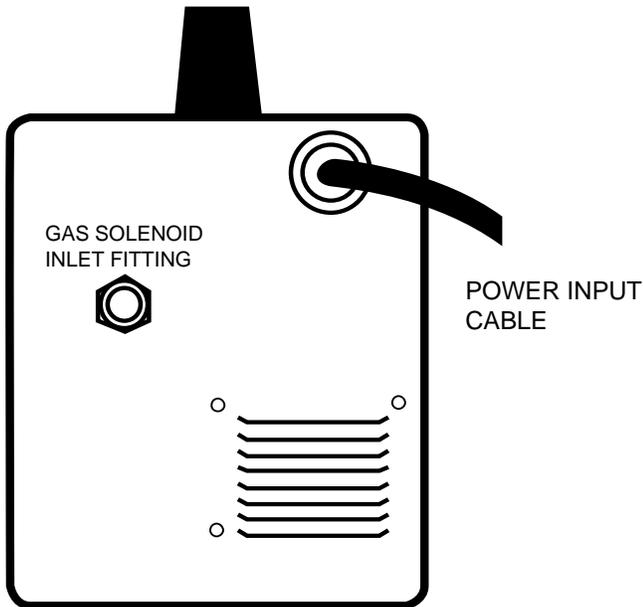

FIGURE A.6
4. Refer to Figure A.6. Attach one end of inlet gas hose to the outlet fitting of the flow regulator and tighten the union nut securely with a wrench. Connect the other end to the Pro-MIG 140 Gas Solenoid Inlet Fitting (5/8-18 female threads — for CGA — 032 fitting). Make certain the gas hose is not kinked or twisted.
Refer to Figure A.6.